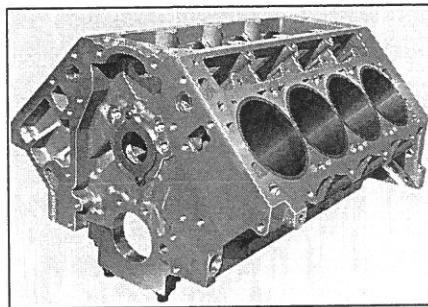

Figure Q1: Engine block
- (a) Describe the casting procedure to make a product like an engine block as shown in Figure Q1 with the aid of a neat sketch.